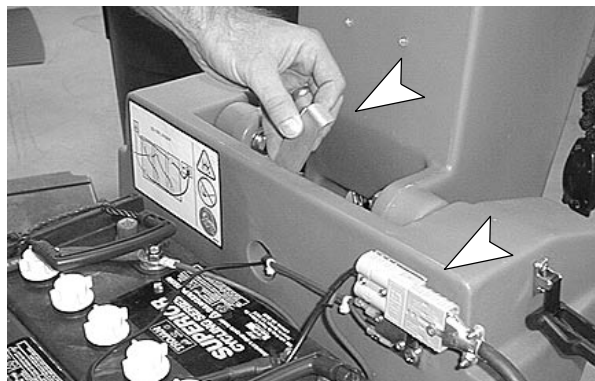

FIG. 20
- With charger's power supply cord unplugged, connect battery charger into machine as shown. Flip up hood support stand and rest hood on stand to promote ventilation (Figure 20).